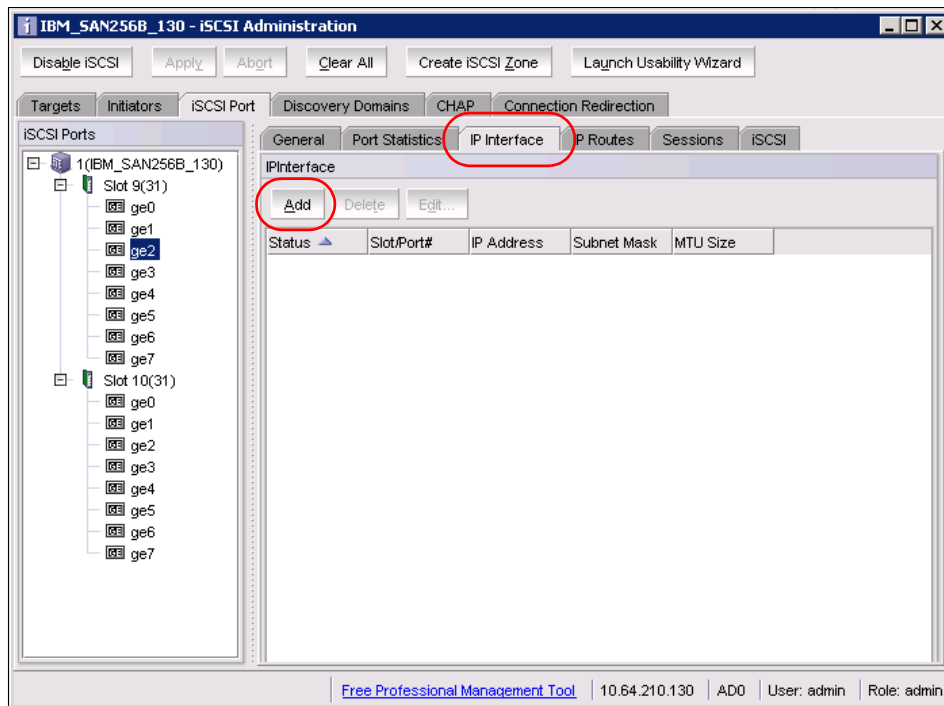

Figure 11-75 Add IP interface
- Configure an IP interface on the ge2 port. Select port ge2 in the iSCSI Ports list, select the IP Interface tab, and click **Add**. See Figure 11-75.